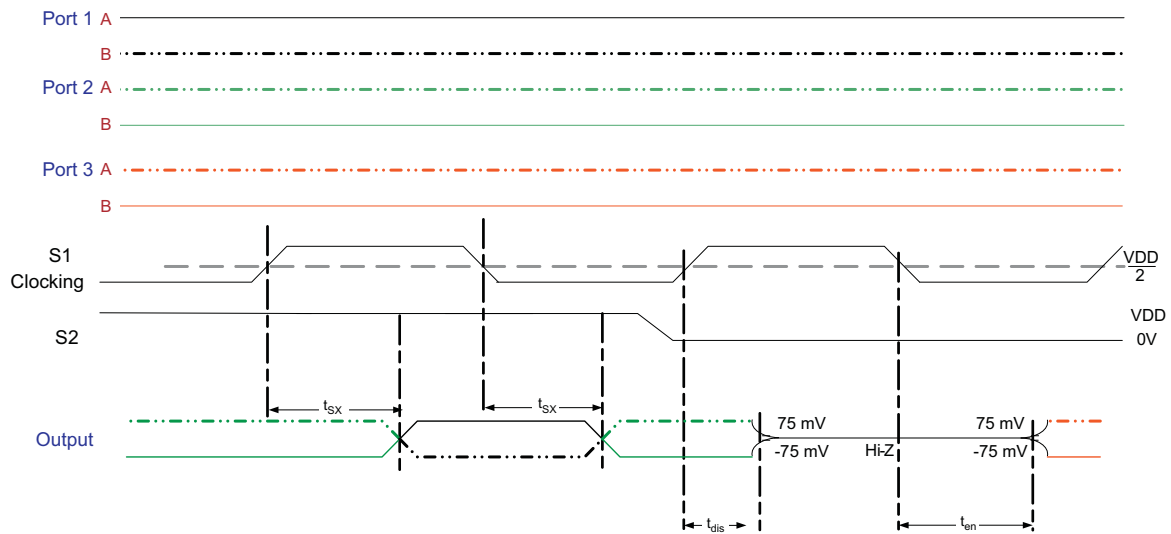

Figure 6. TMD5 Outputs Control Timing Definitions
A. Channels 2, 3, 4, $V_{CC} = AV_{CC} = 3.3\text{ V}$, $T_A = 25^\circ\text{C}$, $R_{VSADJ} = 4.02\text{ k}\Omega$, See Figure 6
A. Channel 1, $V_{CC} = AV_{CC} = 3.3\text{ V}$, $T_A = 25^\circ\text{C}$, $R_{VSADJ} = 4.02\text{ k}\Omega$, See Figure 6
A. 1080p 10-Bit, $V_{CC} = AV_{CC} = 3.3\text{ V}$, $T_A = 25^\circ\text{C}$, $R_{VSADJ} = 4.02\text{ k}\Omega$, See Figure 6, Clock Channel = 185.6 MHz, Data Channel = 1.856 Gbps
A. 1080p 12-Bit, $V_{CC} = AV_{CC} = 3.3\text{ V}$, $T_A = 25^\circ\text{C}$, $R_{VSADJ} = 4.02\text{ k}\Omega$, See Figure 6, Clock Channel = 222.8 MHz, Data Channel = 2.228 Gbps